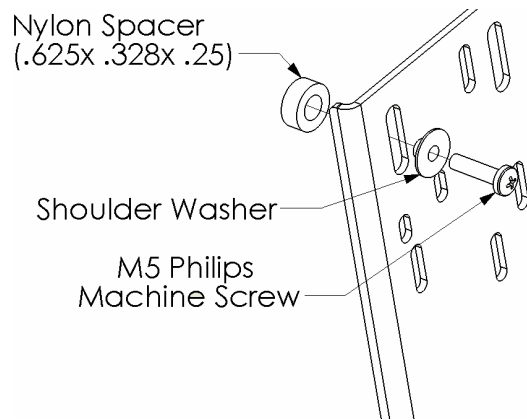
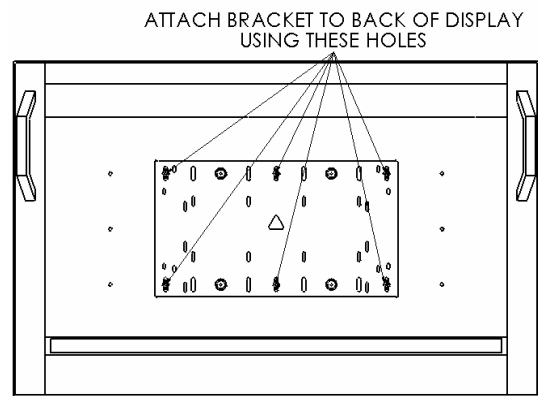

Figure 4
Figure 5
3. Attach bracket to back of display using the M5 screws and shoulder washers (see Figure 4 & Figure 5). The vertical slots of bracket can be used for any height adjustment that may be needed. Do not over tighten screws.